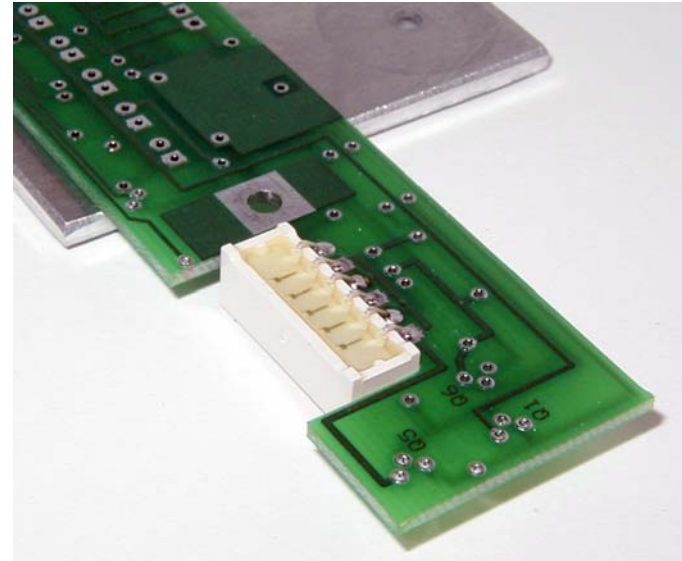

Figure 7. Installing Light Bar.
- Position the light bar in the cutout of the board as shown in Figure 7. Adjust the leads as necessary so they line up with the six solder pads at the edge of the cutout. The leads will NOT pass through the solder pads. The tips of the leads will rest just inside the top of each solder pad.